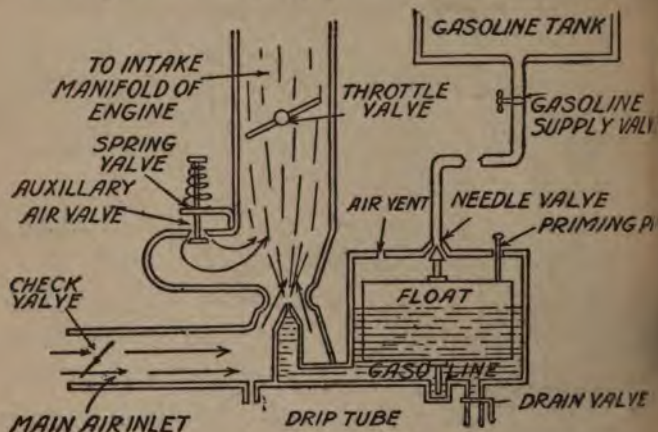

FIG. 61.—HOW A CARBURETOR WORKS
The Parts and Action of the Carburetor.—A carburetor is made up of two chief parts and these are (1) the *gasoline supply control* and (2) the *spray making apparatus*. The gasoline supply is controlled, as you will see at A in Fig. 61, by a needle valve fitted to a float and as the gasoline fills the chamber